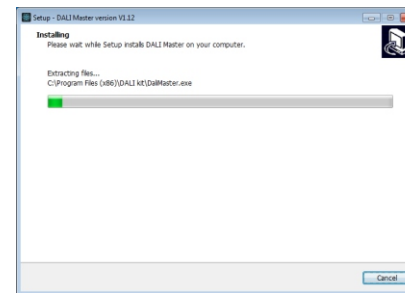

Figure 5 Starting Installation
Step 5: Starting installation as shown in Figure 5.